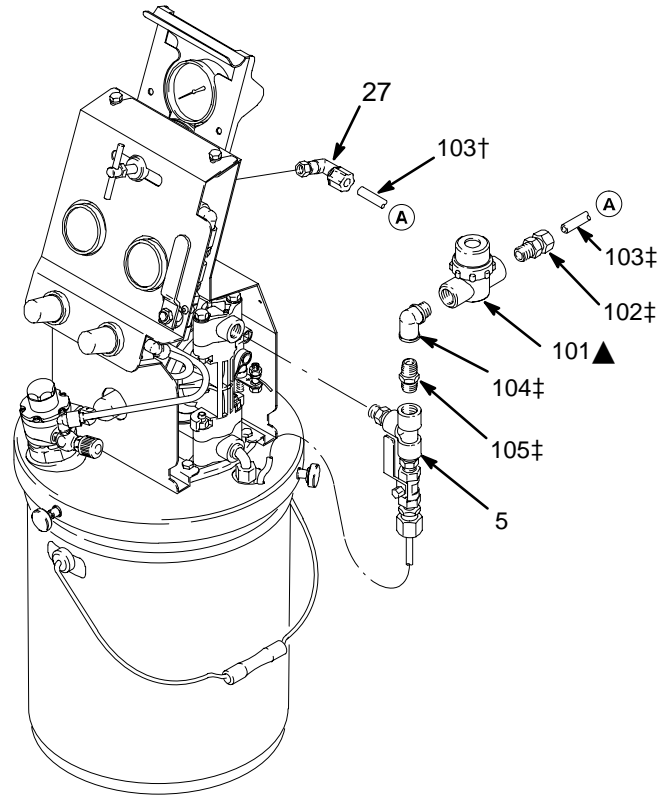

Fig. 5
The Fluid Filter Kit, listed above, can be installed to filter fluid drawn by the suction tube after it comes out of the pump. Install the Fluid Filter Kit as follows (see Fig. 5):
1. Apply thread sealant (specified in Fig. 5) to all male threads in this kit.
2. Remove the male connector (6) and the PTFE tube (46) that connect to the top of the tee (5). See the **Parts** drawing on page 13.
3. Thread the nipple (105) into the female threads of the elbow (104).
4. Thread the nipple (105), with the elbow (104) attached to it, into the tee (5).
5. Thread the fluid filter (101) onto the male threads of the elbow (104). Make sure you install the filter in accordance with the flow direction arrow shown on the filter housing.
6. Thread the male connector (102) into the fluid filter (101).
7. Turn the fluid filter/male connector assembly towards the elbow (27), and turn the elbow (27) down toward the tube. This makes connecting the tube (103) in step 8 easier.
8. Cut the PTFE tube (103) to the proper length, and install it to run from the male connector (102) to the elbow (27).